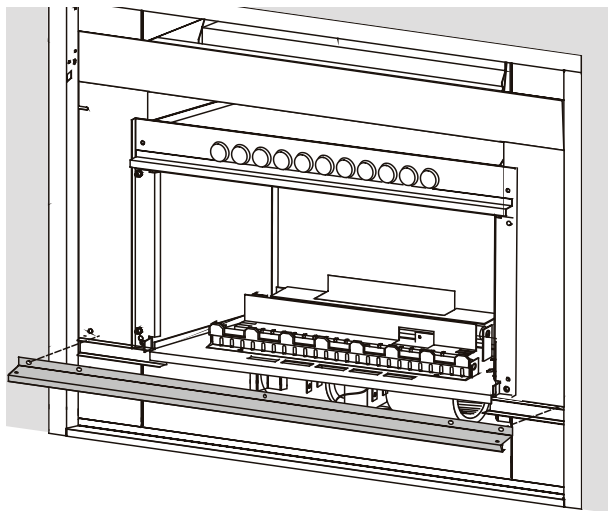

Figure 21. *Installing the new front bar.*
12. Install the new front bar as shown in figure 21.